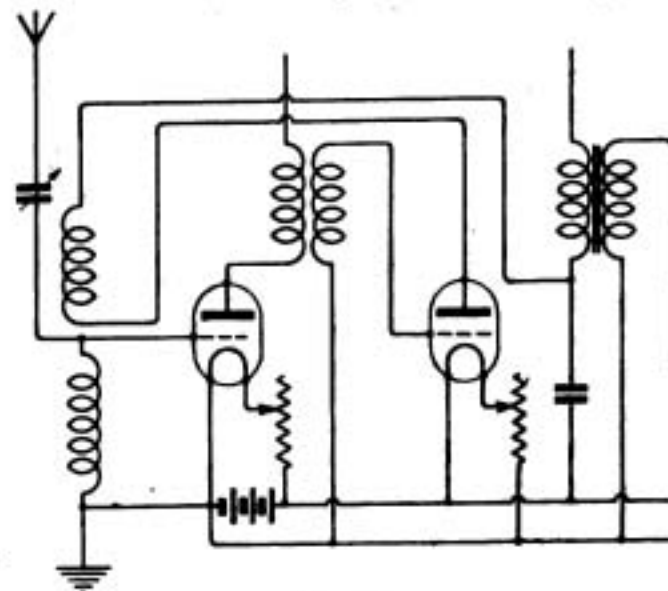

Fig. 3.
(1) See diagram (Fig. 3), but an alteration of this nature will quite spoil the set. The remainder of the set as in the diagram referred to. (2) We